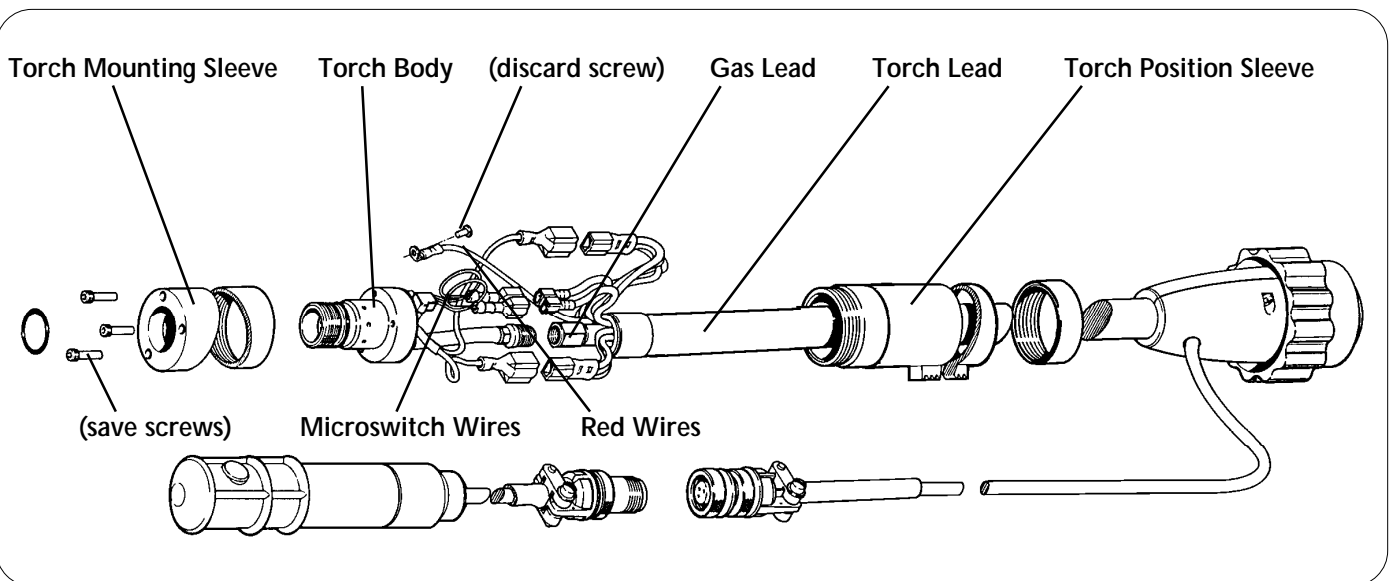

Figure 1 PAC121M Torch Body Removal
7. Attach the torch mounting sleeve to the torch body by securing the 3 screws to the torch body (Figure 1). Torque to 7 in. lbs.